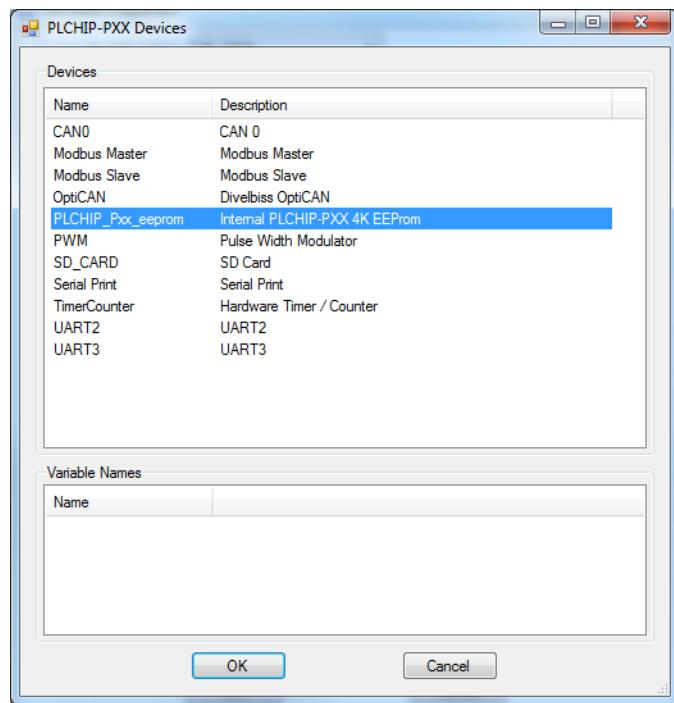

Figure 7-4
3. Click the **ADD DEVICE** button. The *PLCHIP-PXX Devices* window will open. Locate the *PLCHIP\_Pxx\_eeprom* in the Devices pane of this window. Refer to Figure 7-4.